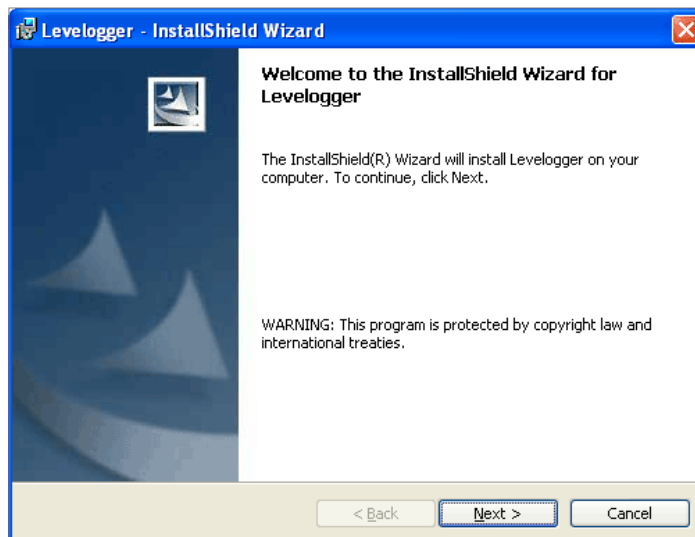

Figure 7-1 Software Installation Wizard
- 3) The Software Installation Wizard will guide you through the remaining installation process. Figure 7-1 shows the Levelogger Installation Wizard.